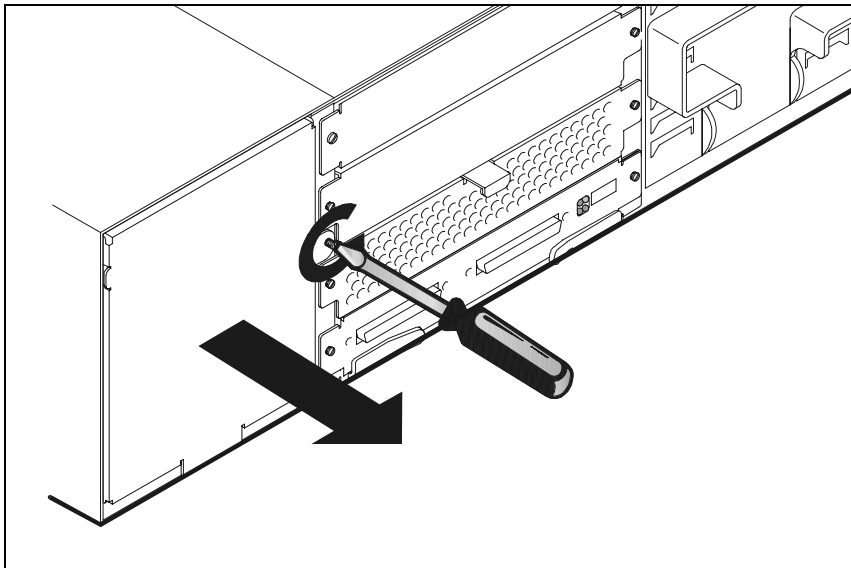

Figure 64 Removing Power Supply Filler Panel
1. Loosen the screw and remove the filler panel from the left power supply slot (Figure 64).